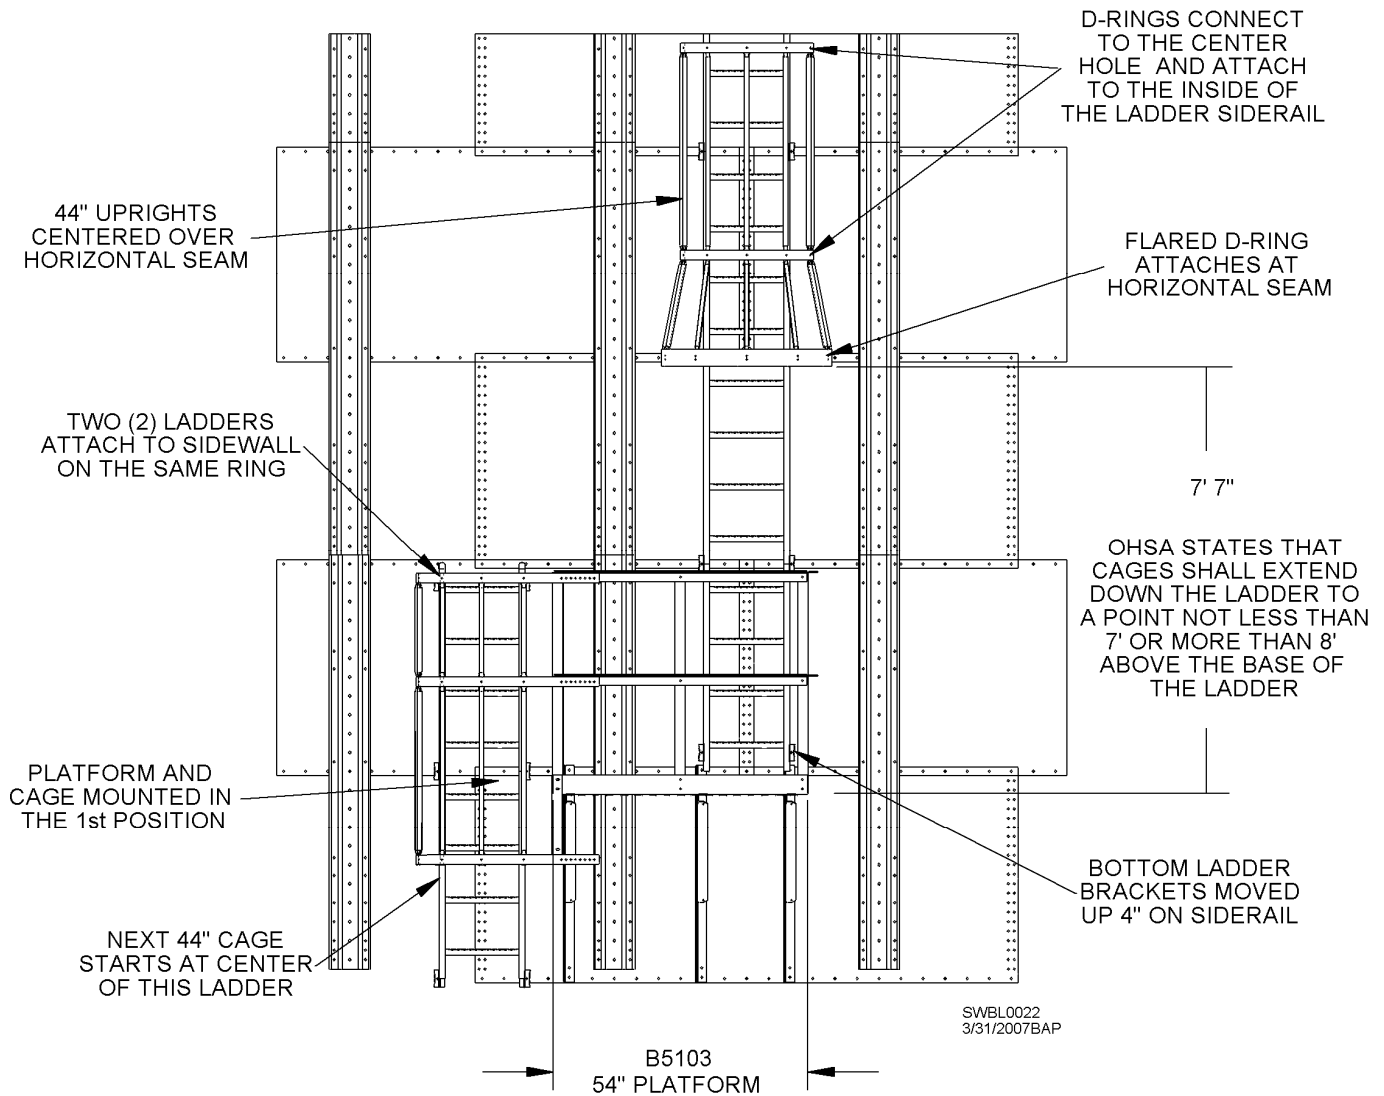

Fig. 27
Fig. 27 shows where flared D-ring should be assembled in relation to landing platform. When assembled correctly, flared D-ring should be two (2) sidewall rings above landing platform. **Landing platform must be attached to sidewall in 1st position.** This will ensure OSHA standards are met, as well as ease erection of ladder and cages. Two ladders attach to sidewall on same ring at landing platform location. Remember that at top and bottom of each ladder assembly, sidewall brackets need to be moved either up or down 4" to avoid interference with roof sheets, landing platform brackets, concrete and ladder caps.
To ensure that additional ladder columns will be centered between two stiffeners, attach landing platform to sidewall as shown in Fig. 27. Top ladder column should have already been centered between two stiffeners.